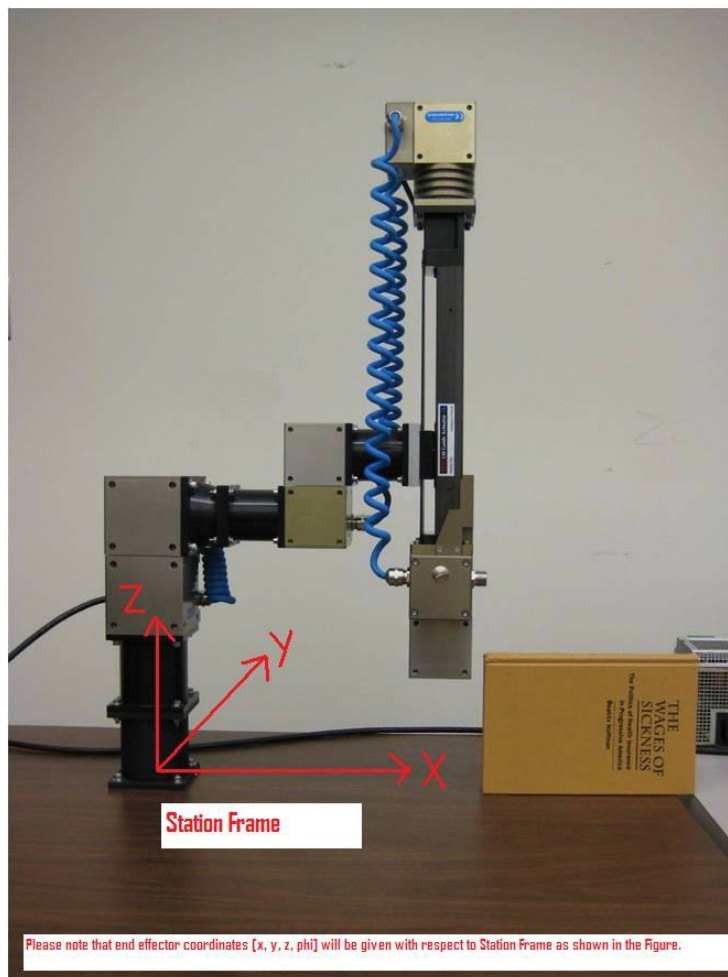

Figure 1: Assigned Station Frame. The robot is shown in joint configuration $(0^\circ, 0^\circ, -200\text{mm}, 0^\circ)$.
In this open-ended project, you will simulate a 4-DOF SCARA type (RRPR) manipulator and apply the subject matter of your lectures to the manipulator. The SCARA Configuration, shown in Figure 8.5 of your text, is the real robot is shown in Figure 1, and a schematic of the real robot is shown in Figure 2. This simple manipulator is complex enough to demonstrate the main principles of the course while not bogging you down with too much complexity. Each part of the project builds upon the previous one so that at the end of the project, an entire library of manipulator software to drive the robot will be created. Two SCARA robots are setup in the lab, and teams will test their custom programmed functions on the real robot (if their functions safely pass all tests in simulation). The project is to be done in groups, with each group consisting of **three students**.
- Assign D-H frames to the manipulator of your choice. Assign station frame $\{S\}$ as shown in Figure 1. Assign the origin of Tool frame $\{T\}$ in the center of the gripper (note Z_T points downwards). Determine the D-H parameters and the forward kinematic equations. Although numerical values are given, derive forward and inverse kinematics with symbolic values and then substitute the numerical values as appropriate parameters in your code.